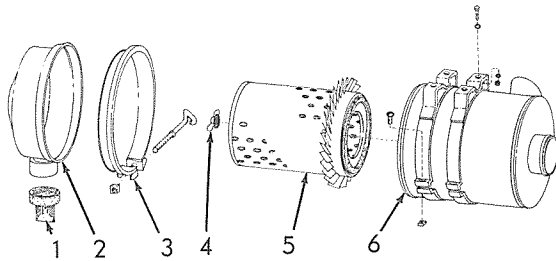

Fig. 2 — Air Cleaner (Type II)
- b. Loosen filter vent plug, Fig. 2 (3). Unlock the plunger of the primer pump by turning it counter-clockwise several turns. Move the primer pump plunger up and down in a pumping motion to fill the filters with fuel and to expel the air.
- b. Loosen filter vent plug, Fig. 2 (3). With engine shut-off knob in OFF position crank engine until fuel free of air bubbles flows from vent. Tighten vent securely.
2. DESCRIPTION OF AIR CLEANER (TYPE II) Fig. 2